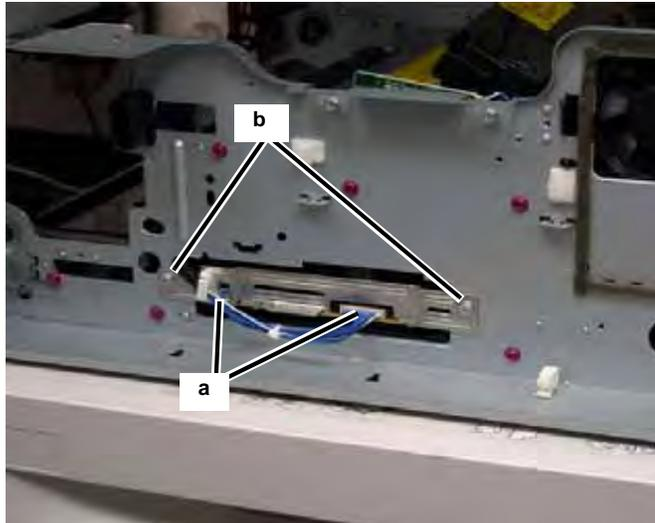

Figure 16 Removing Screws
18. Remove the HVPS (Figure 16).
- b. Remove the Screws (2).